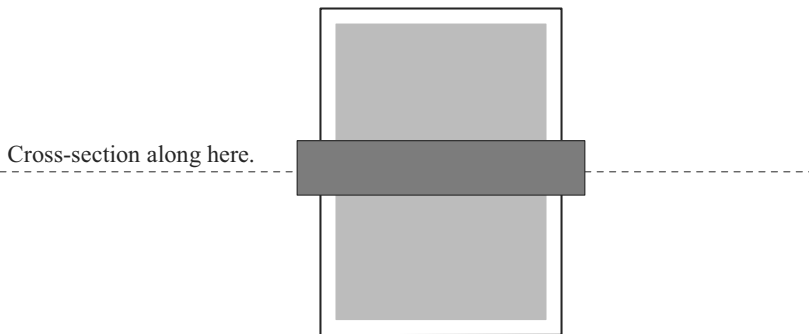

Figure 4.21 Layout used in Problem 4.2.
- 4.2 Sketch the cross-sectional view along the line indicated in Fig. 4.21.